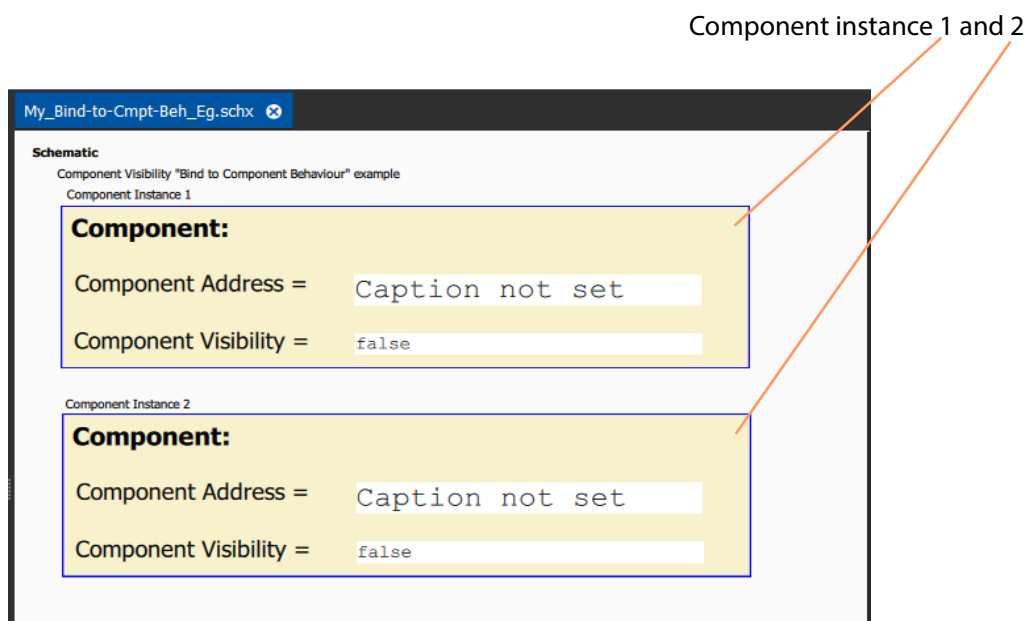

Fig. 4-47: Created Screen
- 2 Add two instances of the Component. See Figure 4-47.